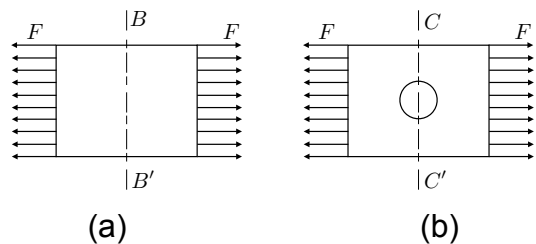

Figure 1: “Thin” Flat Plates in Tension
3. Determine the stresses and sketch the stress distributions at Sections  $B - B'$  and  $C - C'$ . The cross sectional areas at  $B - B'$  and  $C - C'$  are  $A$  and  $A'$ , respectively for the “thin” flat plates in Figure 1. Assume  $K$  to be the stress concentration factor.